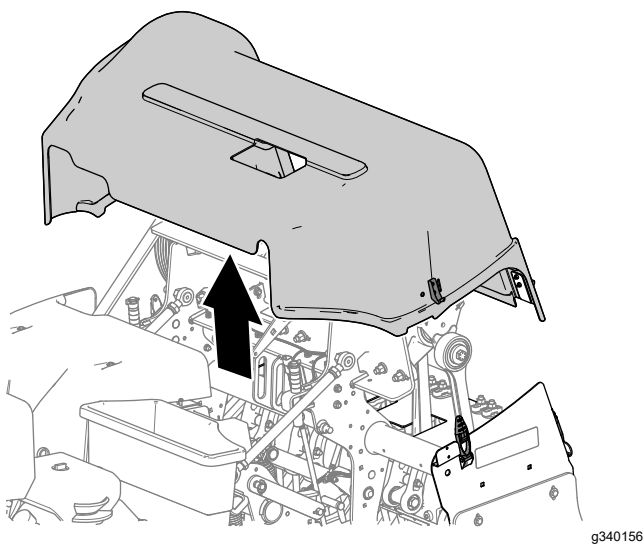

Figure 140
5. Lift the coring-head cover from the machine (Figure 140).